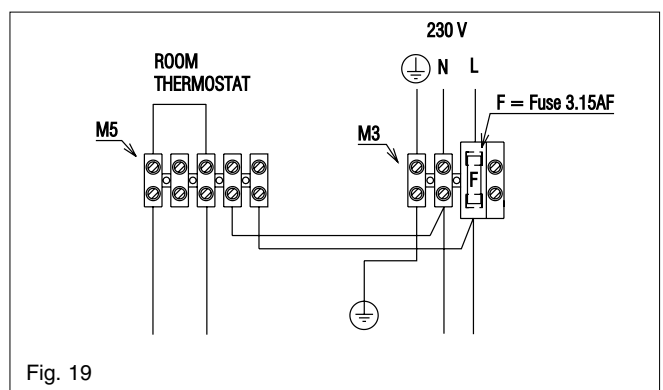

Fig. 19
4.7.3 CONNECTING THE MAINS (230V) INPUT (see FIG. 19).